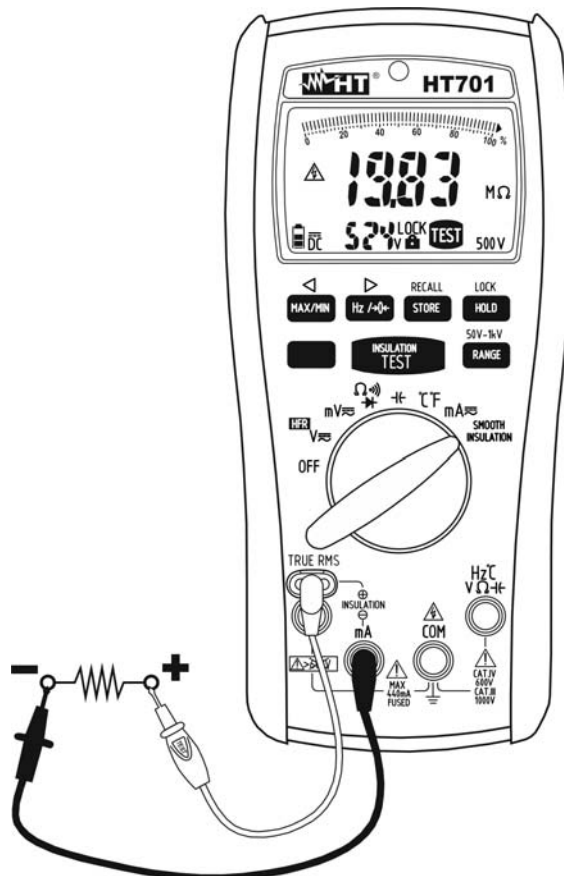

Fig. 10: Use of the instrument for Insulation measurement
5. Insert the red remote probe into input lead “ \oplus ” and the black cable into input lead “ \ominus ” (see Fig. 10).
6. Position the leads at the ends of the circuit to be tested, respecting positive and negative polarity (see Fig. 10). If necessary, use the alligator clips.